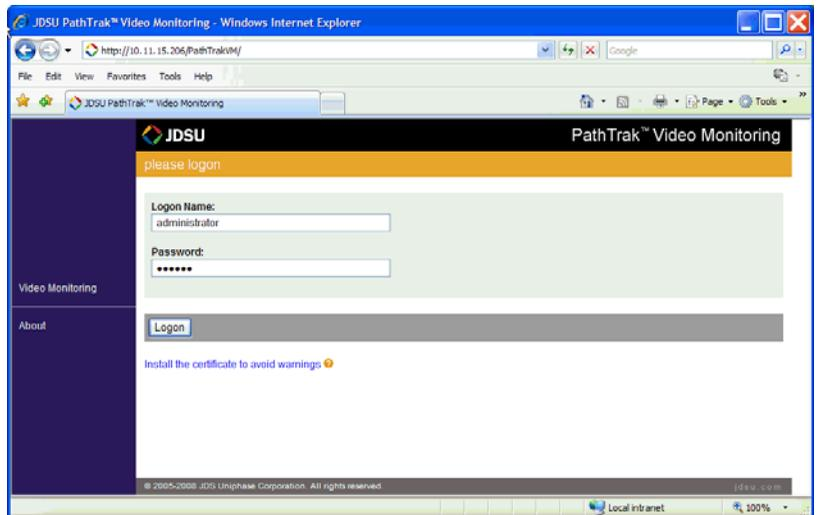

Figure 62 PathTrak™ Video Monitoring logon page
- 3** On the PathTrak™ Video Monitoring logon web page Logon Name text box (Figure 62), type **your logon name or the default logon name**.